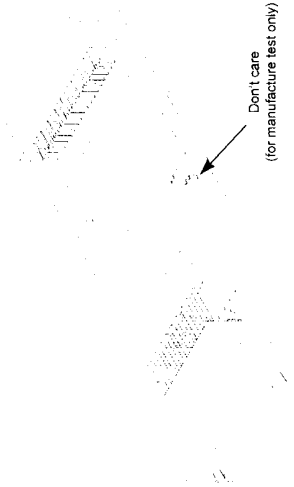

Fig.4-17 NS-620M8, Nx64Kbps, V.35 Data interface Module
- M8: V.35 interface (Nx64Kbps, N = 1 ~ 31), Fig.4-17